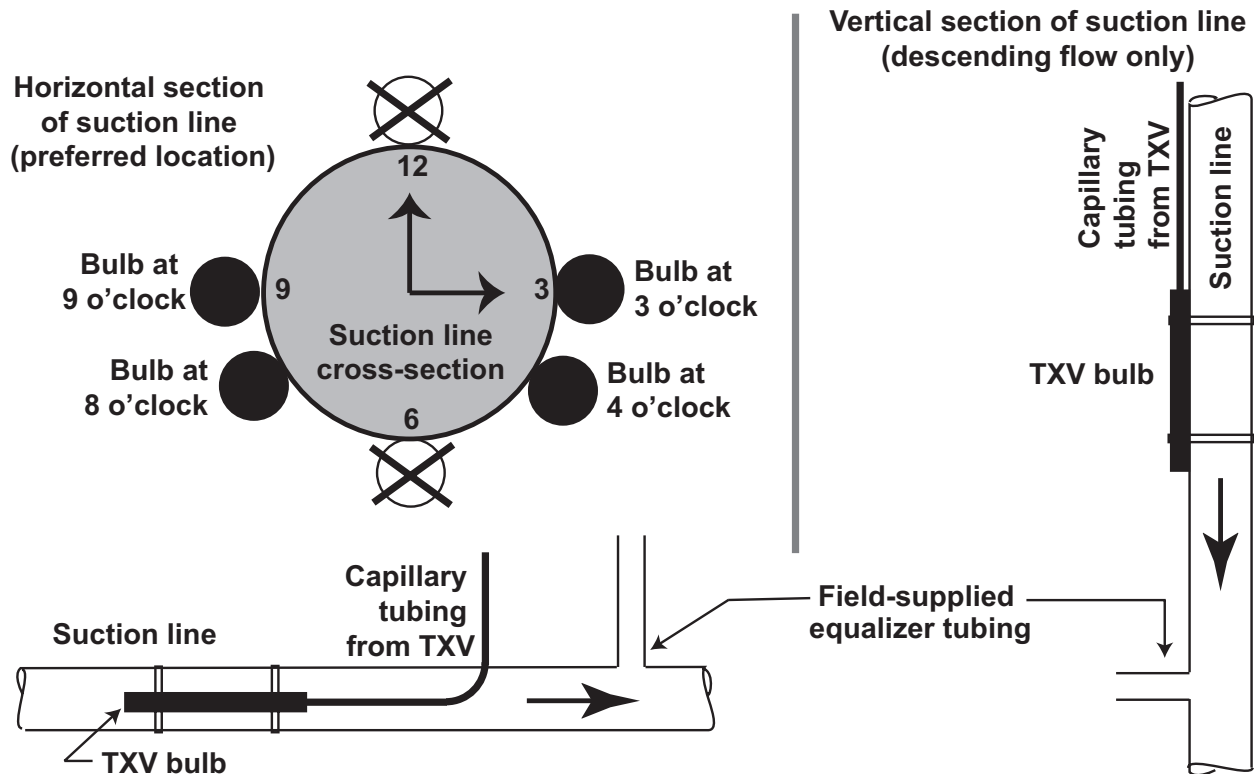

Figure 3. TXV Bulb Installation (Applies to Both Circuits)
- b. Position bulb flat against surface of tubing and orient capillary tube as shown in Figure 3. Place bulb on straight horizontal section of suction line as close as possible to evaporator coil outlet. If bulb must be vertical, line must be descending.